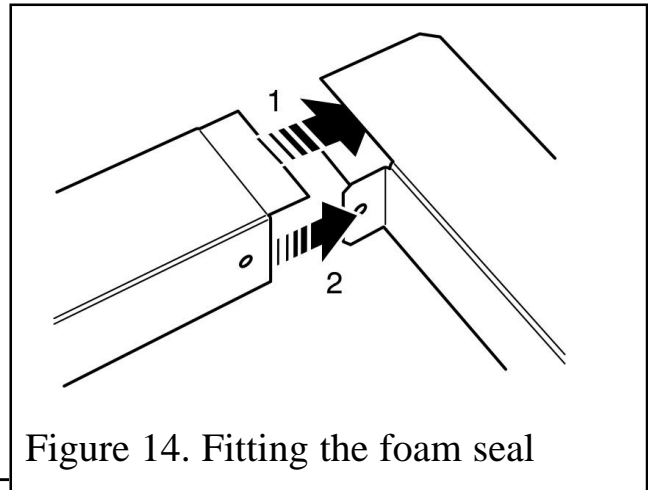

Figure 14. Fitting the foam seal
10. The sides have a stepped top face. These must be located on the inside the top piece (See point 1 of figure 14). The tabs on the top piece must locate on the inside of the side pieces (See point 2 of figure 14). Secure the two side pieces to the top piece using two self tapping screws supplied. Locate the screws from inside the 'U' channel.